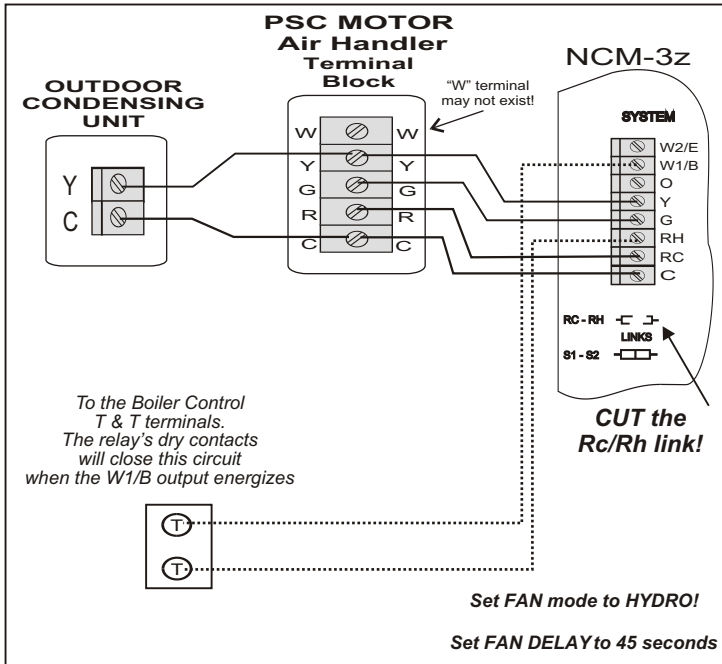

Figure 15
* Figure 15 is for old tech PSC motor types. Cut the Rc/Rh link (to isolate) and connect the Boiler T&T circuit straight to the Rh and W1/B.